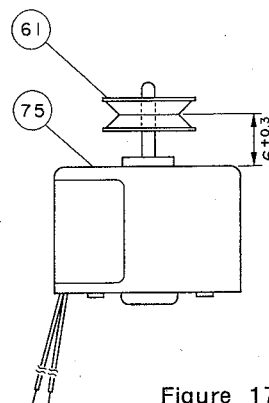
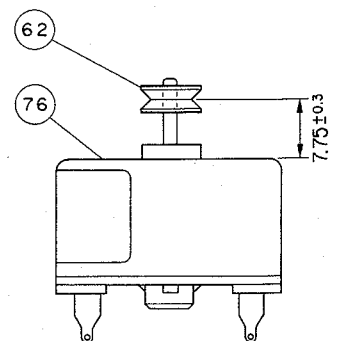

Figure 17
Figure 18
**(D) REASSEMBLY THE MOTORS, (75) AND (76), WITH THE FOLLOWING CAUTIONS:**
1. When the Pulley (61 or 62) is mounted to the Motor (75 or 76), make sure to have the specified clearance between the pulley and the motor referring to Fig. 17 and Fig. 18.
**(E) To REASSEMBLE, use DISASSEMBLY INSTRUCTIONS in reverse.**